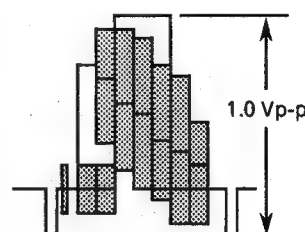

Figure 5-6.
7. Make sure that the amplitude of the playback colour bar signal is $1.0 \pm 0.04\text{Vp-p}$ as shown in Figure 5-6.